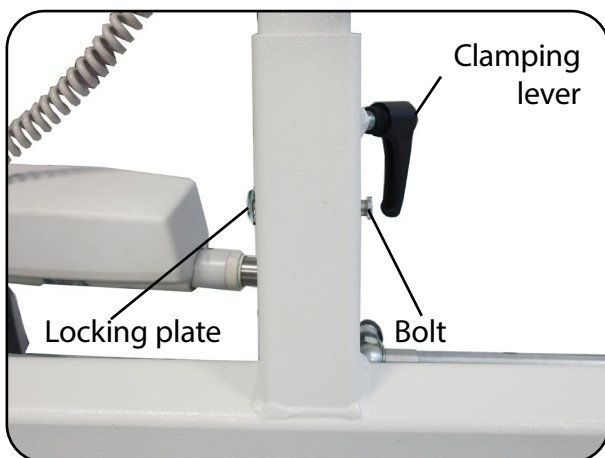

Fig. 13.2.02 – Loosen the stand mast
5. Remove the bolt with the locking plate from the hole and unscrew the clamping lever as far as possible (Fig. 13.2.02).